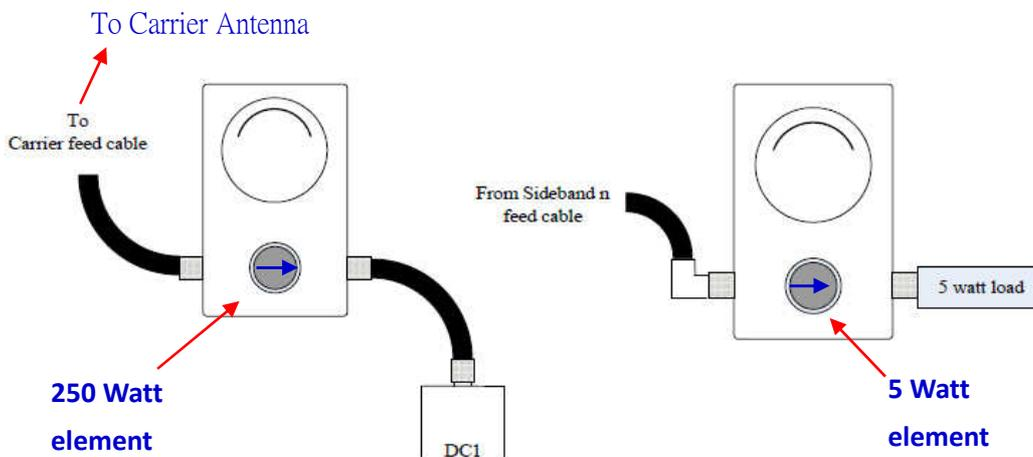

Figure 6-2 Wattmeter Set-up
- b. Place thru-line wattmeter in line with carrier feed cable, (see Figure 6-2). Insert a 250 Watt plug-in element into wattmeter body.